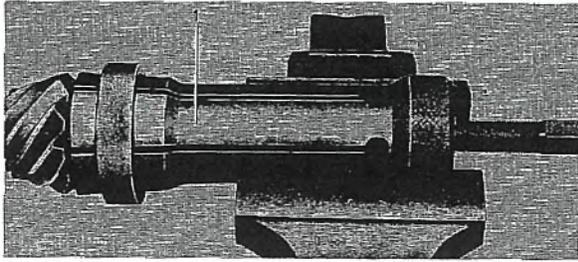

Fig. 4-138. Removing rear pinion bearing
11. If necessary, pull off the rear bearing from the pinion with puller 2392, see Fig. 4-138. The